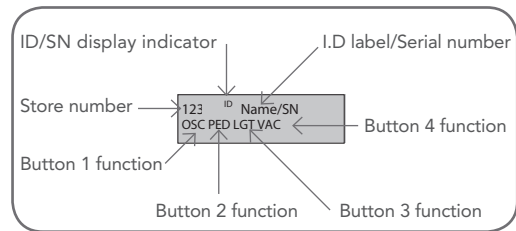

Fig 13.1
The GDO-10V3L2 can store up to five hundred and eleven (511) transmitters in its memory. Each transmitter can be allocated an alpha-numeric ID label up to eleven (11) characters in length and each button can be assigned to one of several control functions. The settings for a transmitter are represented in (Fig. 13.1). It shows the transmitter's store number, ID label or serial number and the functions assigned to each of its four buttons. To toggle between ID/SN display, press UP/DOWN with the cursor on the ID/SN indicator. The procedures below code, delete, replace, edit and copy transmitter records.